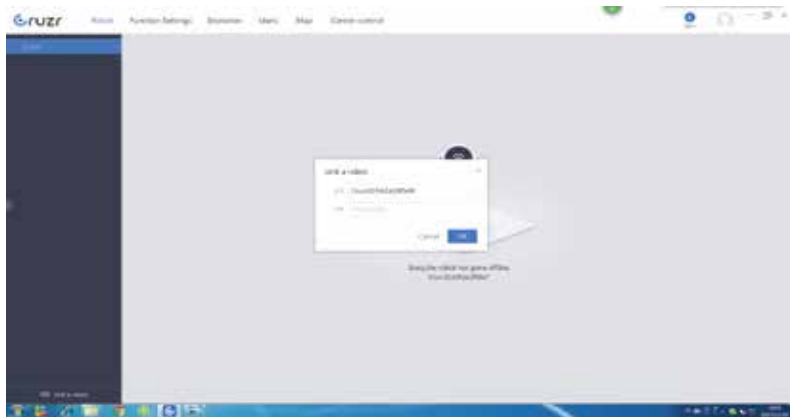

Figure 4.1.2
1. Tap Link a Robot (as shown in Figure 4.1.2)